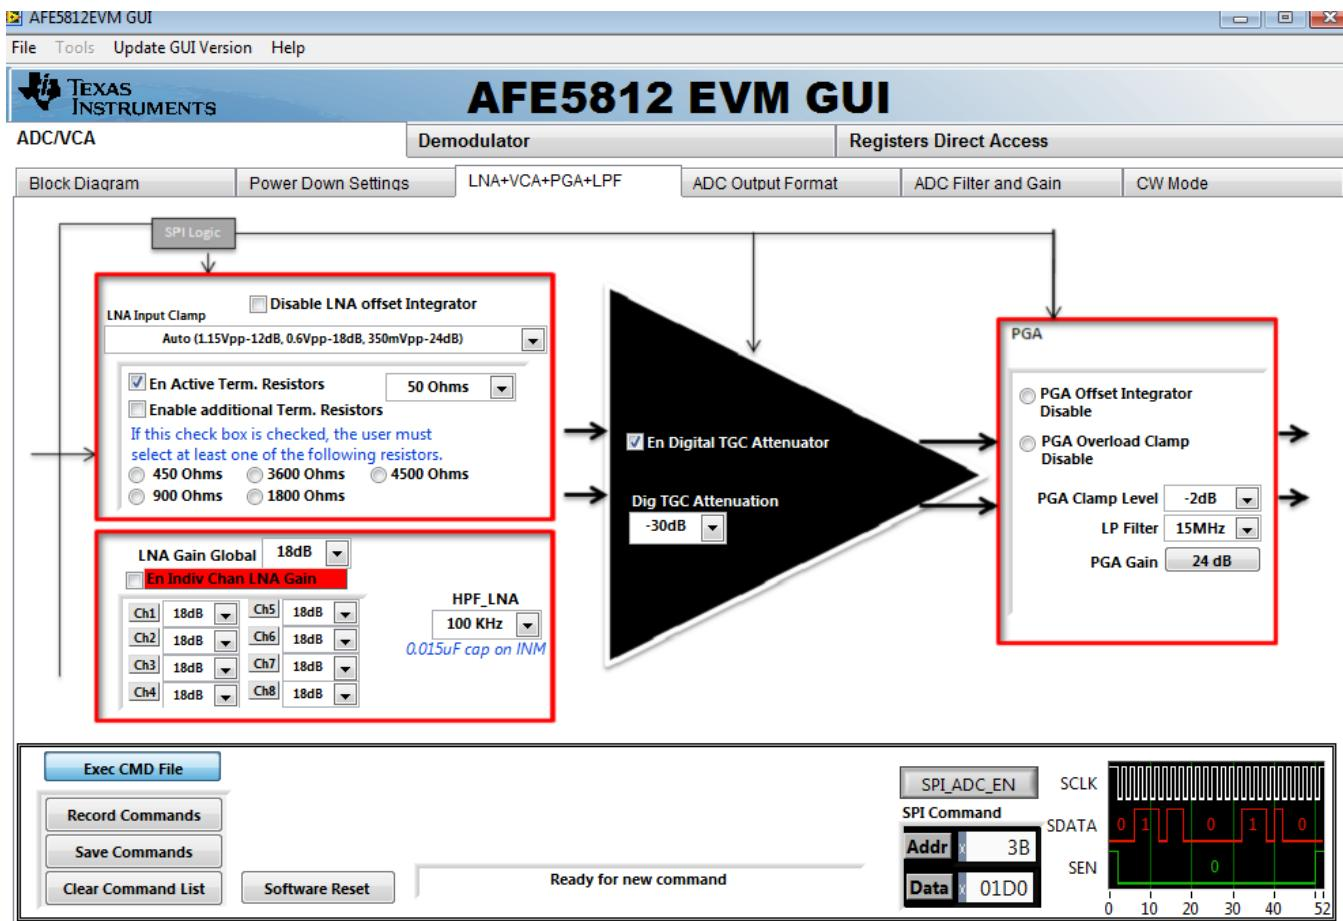

Figure 9. VCA Setup
2. Next, On the '*LNA+VCA+PGA+LPF*' page of the AFE GUI, enable the Active termination resistors and enable the Digital TGC attenuator as in Figure 9. Set the Attenuation to 30dB.